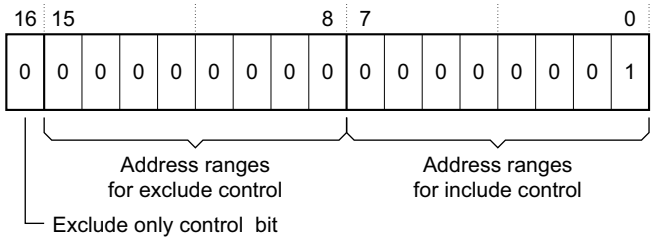

Figure 3-77 ETMVDCR3 example
3. Program ETMVDCR3 as Figure 3-77 on page 3-200 shows.